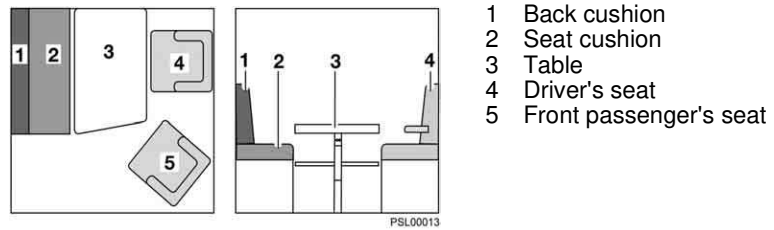

Fig. 42 Prior to conversion
- Turn the driver's seat (Fig. 42,4) with the backrest to the driver's door.
- Turn the front passenger's seat (Fig. 42,5) with the backrest to the front passenger's door.
- Convert the table (Fig. 42,3) to a bed foundation (see section 7.6).